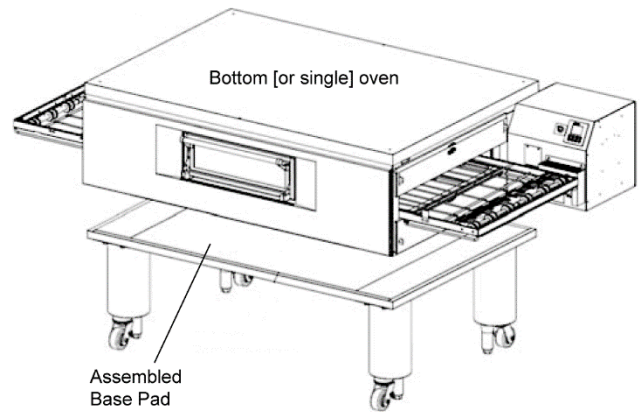

Figure 20. Base Pad Installation
1. Unfold the conveyor as shown in Figure 20. Then begin to slide the conveyor into the end of the oven. The conveyor can only be installed from the side of the oven where the drive motors are located.